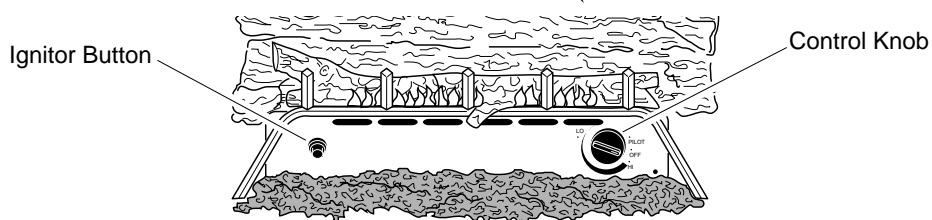

Figure 20 - Control Knob and Ignitor Button Location
4. Wait five (5) minutes to clear out any gas. Then smell for gas, including near the floor. If you smell gas, STOP! Follow “B” in the safety information on page 20. If you don’t smell gas, go to the next step.
5. Press in control knob and turn counterclockwise  to the PILOT position. Keep control knob pressed in for five (5) seconds (see Figure 20).